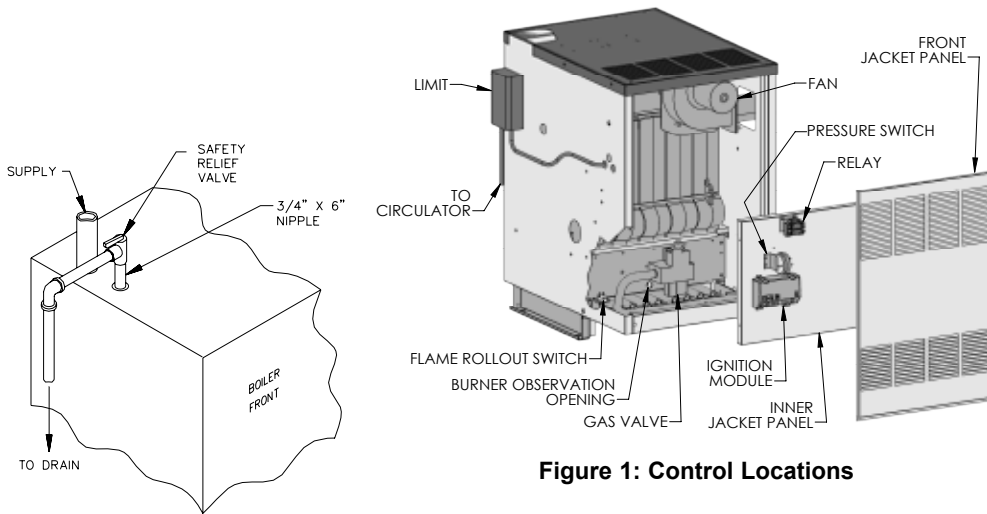

Figure 1: Control Locations
1. See Figure 1. A device which automatically interrupts boiler operation when the water temperature exceeds the set point. Maximum allowable temperature is 220°F (104°C).
2. See Figure 1. A device which automatically interrupts boiler operation when flames or excessive heat are present in the combustion area. The control is a single use device. If the control is activated to interrupt boiler operation, do not attempt to place boiler in operation. Contact a qualified service agency.
3. See Figure 1. A device which automatically interrupts boiler operation when there is excessive blockage in the vent system or fan motor does not operate. This control is an automatic reset device. If control is activated to interrupt boiler operation, do not attempt to place boiler in operation. Contact a qualified service agency.
5. The gas valve monitors pilot flame and regulates gas flow to the burners and pilot. See Figure 1.